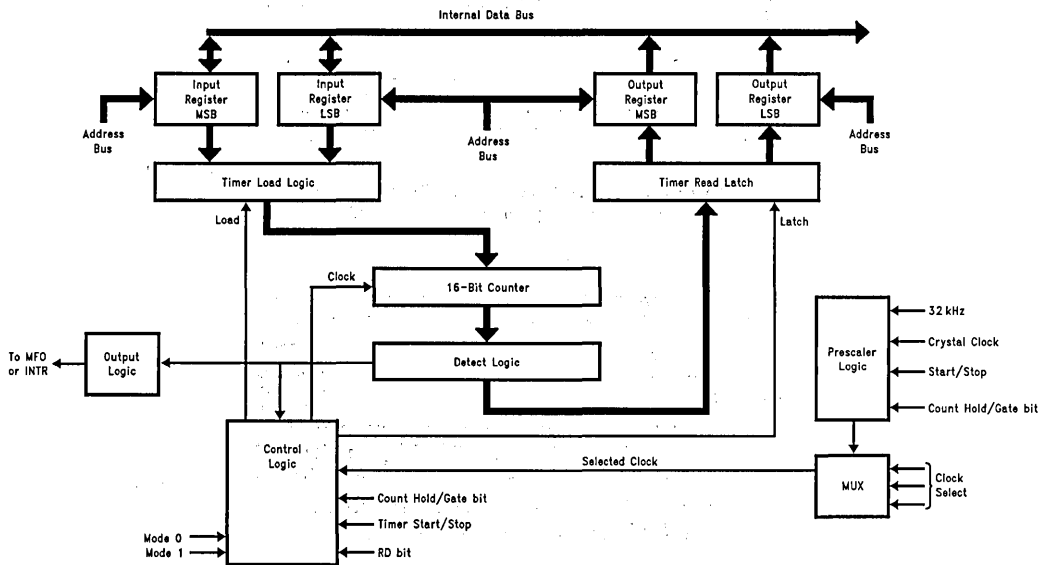

FIGURE 7. LV8571A Timer Block Diagram
Figure 7 shows the functional block diagram of one of the timers. The timer consists of a 16-bit counter, two 8-bit input registers, two 8-bit output registers, clock prescaler, mode control logic, and output control logic. The timer and the data registers are organized as two bytes for each timer. Under normal operations a read/write to the timer locations will read or write to the data input register. The timer contents can be read by setting the counter Read bit (RD) in the timer control register.